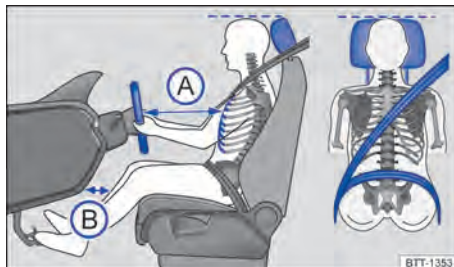

Fig. 20 Illustration: correct distance between the driver and the steering wheel, correct seat belt routing and correct head restraint adjustment.
- Adjust the head restraint so that its upper edge is at the same height as the top of the head, but not lower than eye level. Position the back of your head as close to the head restraint as possible → Fig. 20.
- Adjust the driver seat by moving it forwards or backwards so that you are able to press the pedals to the floor with your knees still slightly bent and the distance from the dash panel to your lower leg area is at least 10 cm → Fig. 20 (B).
- Adjust the steering wheel so that the distance between the steering wheel and your breastbone is at least 25 cm → Fig. 20 (A) and the circumference of the steering wheel can be held at the sides with the arms slightly bent.